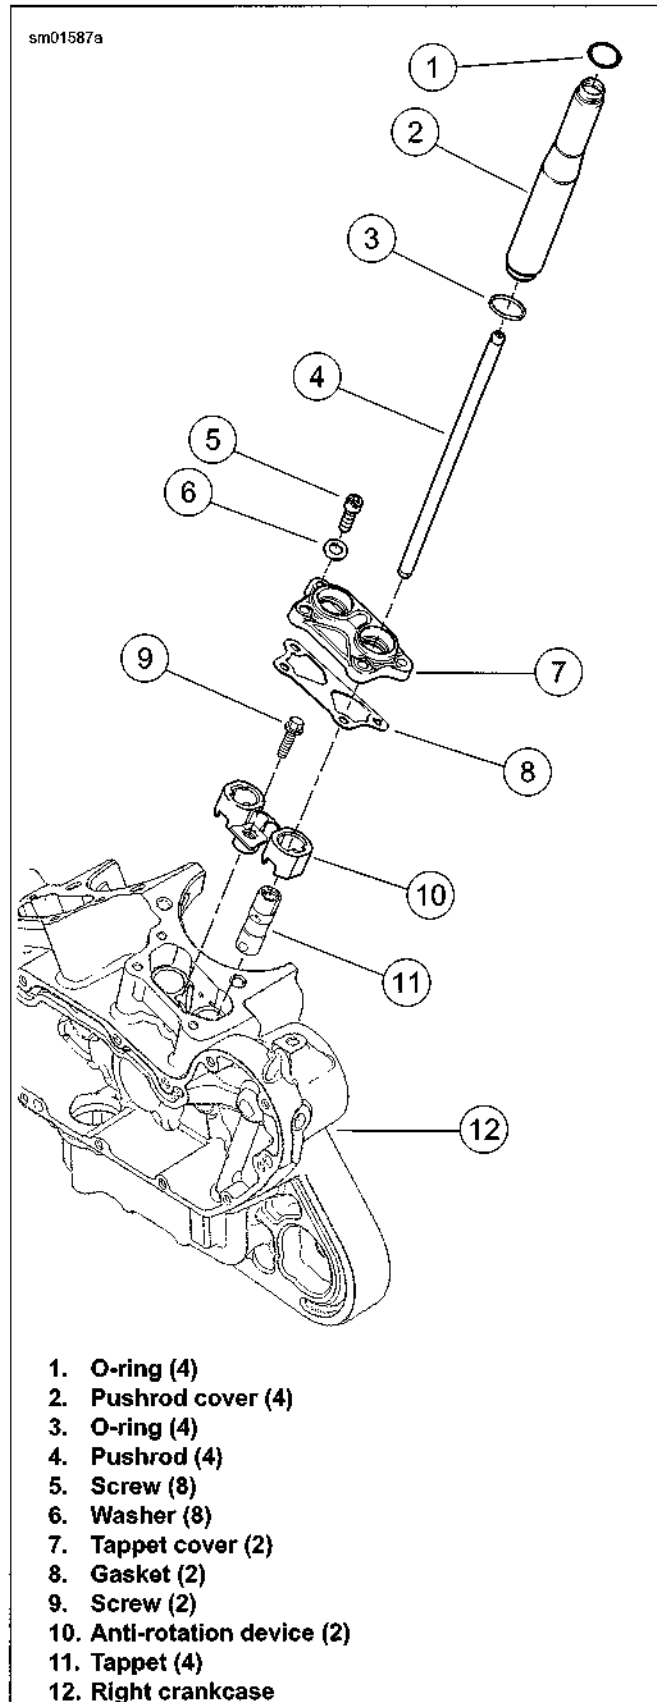

Figure 3-69. Middle Valve Train Components
1. See Figure 3-69. If anti-rotation devices (10) and tappets (11) have been removed, install the tappets. See 3.20 BOTTOM END OVERHAUL: ASSEMBLY, Tappets.
3. See Figure 3-69. Install tappet covers (7) with **new** gaskets (8). Secure with screws (5) and washers (6). Tighten to 90-120 **in-lbs** (10.2-13.6 Nm).
4. Install **new** O-rings (3) in recesses in tappet covers. Press pushrod covers (2) into O-rings.
6. Slide intake and exhaust pushrods (4) down inside pushrod covers until they rest on seat at top of tappet (11).